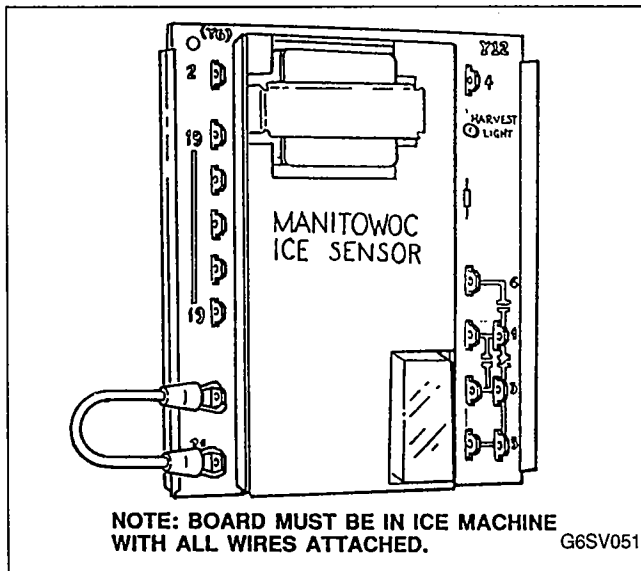

FIGURE 28. UNITIZED SENSOR BOARD
Step 4: Disconnect wires from terminals 20 and 21 on board. Connect jumper wire to terminals 20 and 21, Figure 28.